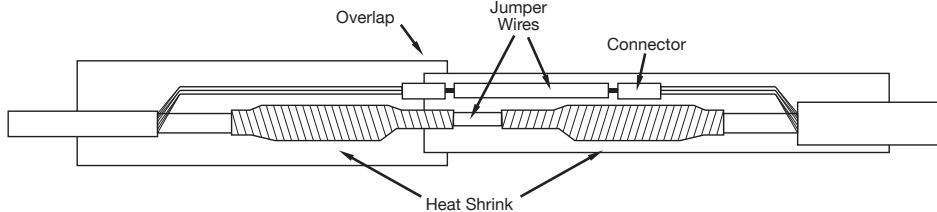

Figure 4
13. Position large shrink tube over entire splice area and shrink with heat gun. The shrink tubes must overlap at least 1" (25.40mm) of overlap on each side of the splice and 1" (25.40mm) in the middle for sealing purposes. (see Figure 4)